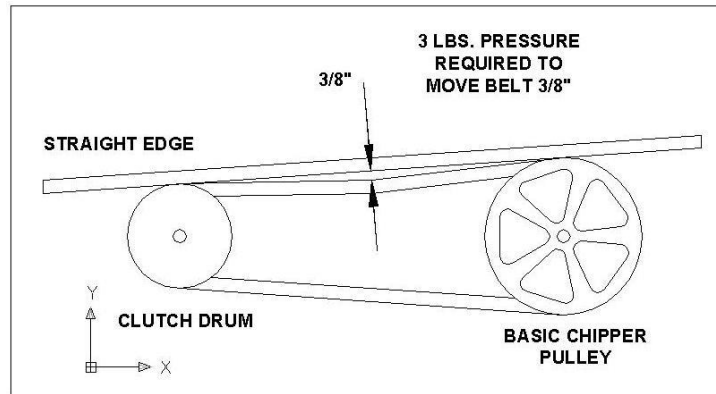

Figure 1
The belt on your chipper should deflect  $3/8$ " under three pounds of pressure as shown in figure 1 below. If it doesn't, adjust per the following directions.
- Tighten or loosen the nut on the belt tensioner until you have the correct tension as shown in figure 1.